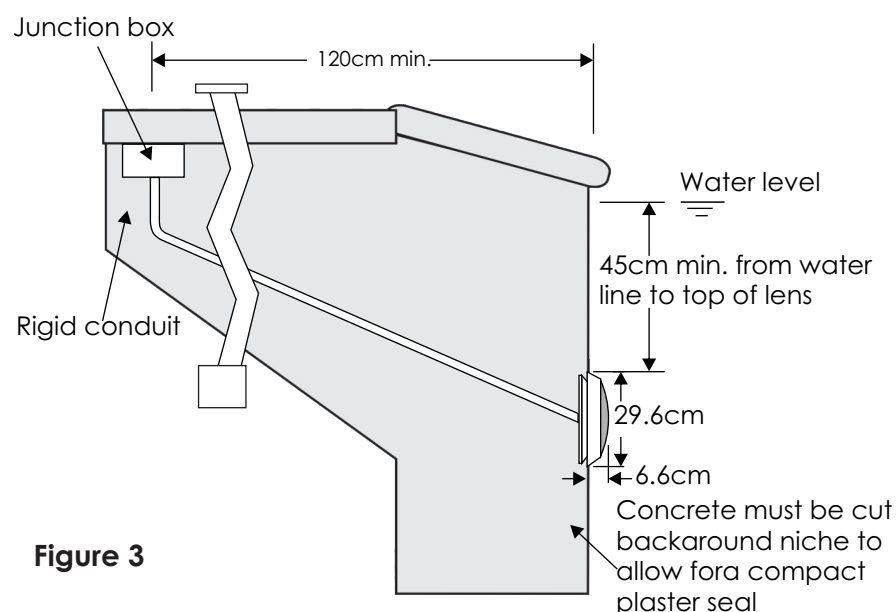

Figure 3
- 2) Make sure the voltage is 12V and the terminal box is at least 120cm from the poolside (Figure 3).
- 3) Upon installation, top of the light must be at least 45cm from water surface (Figure 3).